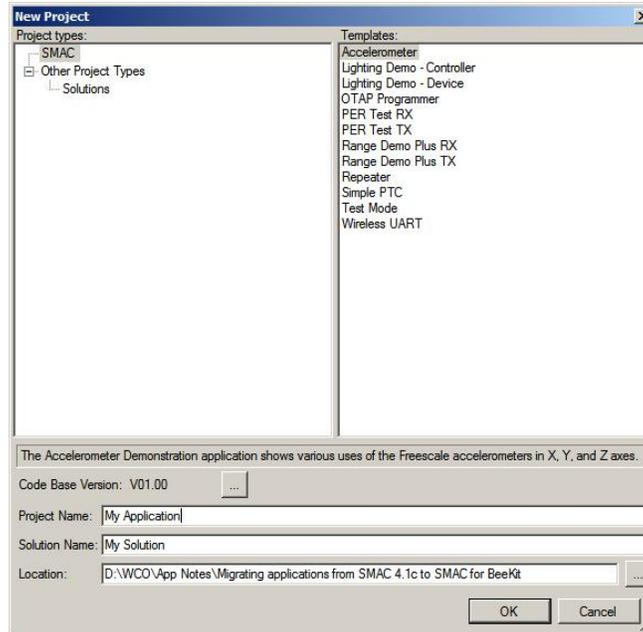

Figure 3. Naming an Accelerometer Project Template
5. From the BeeKit main window, click on File -> New Project. The New Project window appears as shown in Figure 3.